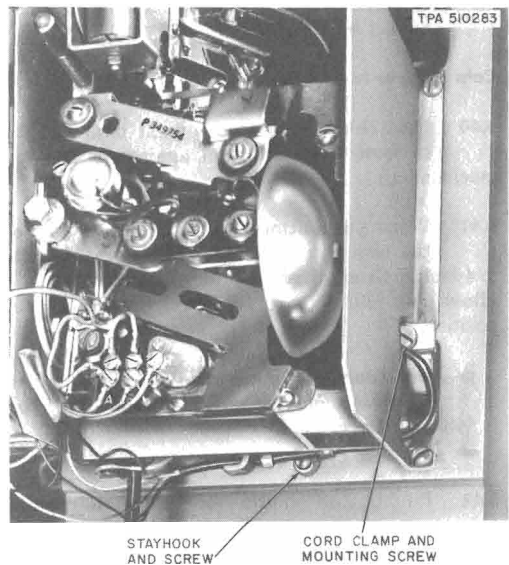

Fig. 34—Location of Armored Cord Mounting Hardware in 235, and 1235-Type Coin Collector
6.52 Refer to Fig. 34 for routing and securing handset cord in 235- and 1235-type coin collectors.